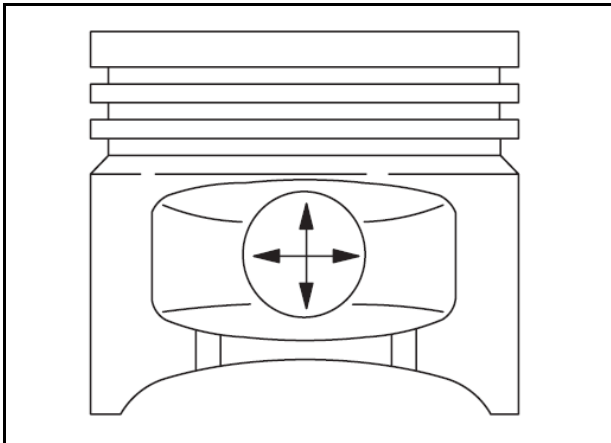

Fig. 5 - Checking Piston Pin Bore
3. Check piston pin bore, Fig. 5.